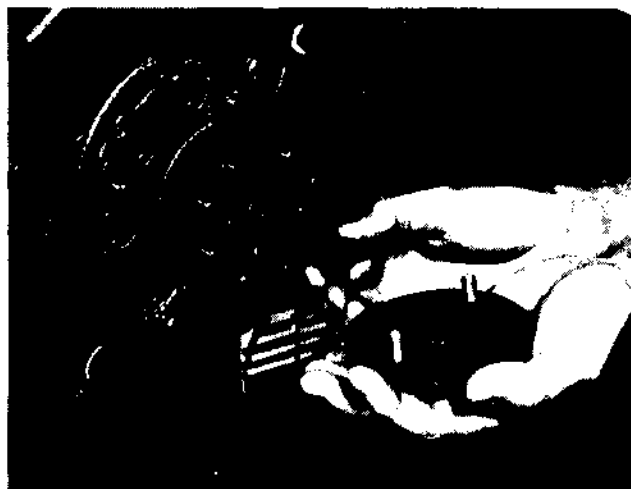

Figure 51
3. Remove the last two bolts and lift off the cover and spring (Figure 51).
4. Place the spring over the protruding knob on the oil pump plate (Figure 51). Hold in position while placing the cover and bolts up against the bearing head. Push the cover toward the bearing and engage the two bolts.